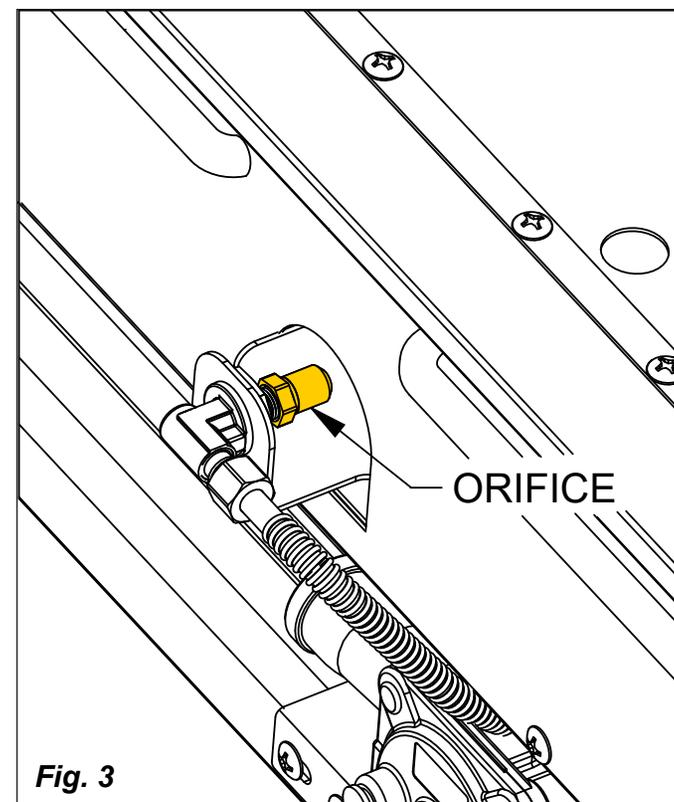

Fig. 3
4. The orifice is now accessible for removal. It should not be necessary to remove the elbow from the bracket or to disturb the flex hose. Make a note of how many threads you can see at the base of the orifice. Install the new orifice to roughly this same distance. Use a 1/2" wrench or locking pliers to prevent the brass elbow from rotating, and another 1/2" wrench to remove the orifice. There is a large locknut just below the orifice which must remain tight against the bracket. (Fig. 3)
FOR HIGH-ALTITUDE KIT: You are changing the orifice only. Make a note of how many threads you can see at the base of the orifice. Install the new orifice to roughly this same distance. Use a 1/2" wrench or locking pliers to prevent the brass elbow from rotating and a 1/2" wrench to remove the orifice. There is a large locknut just below the orifice which must remain tight against the bracket. (Fig. 3)